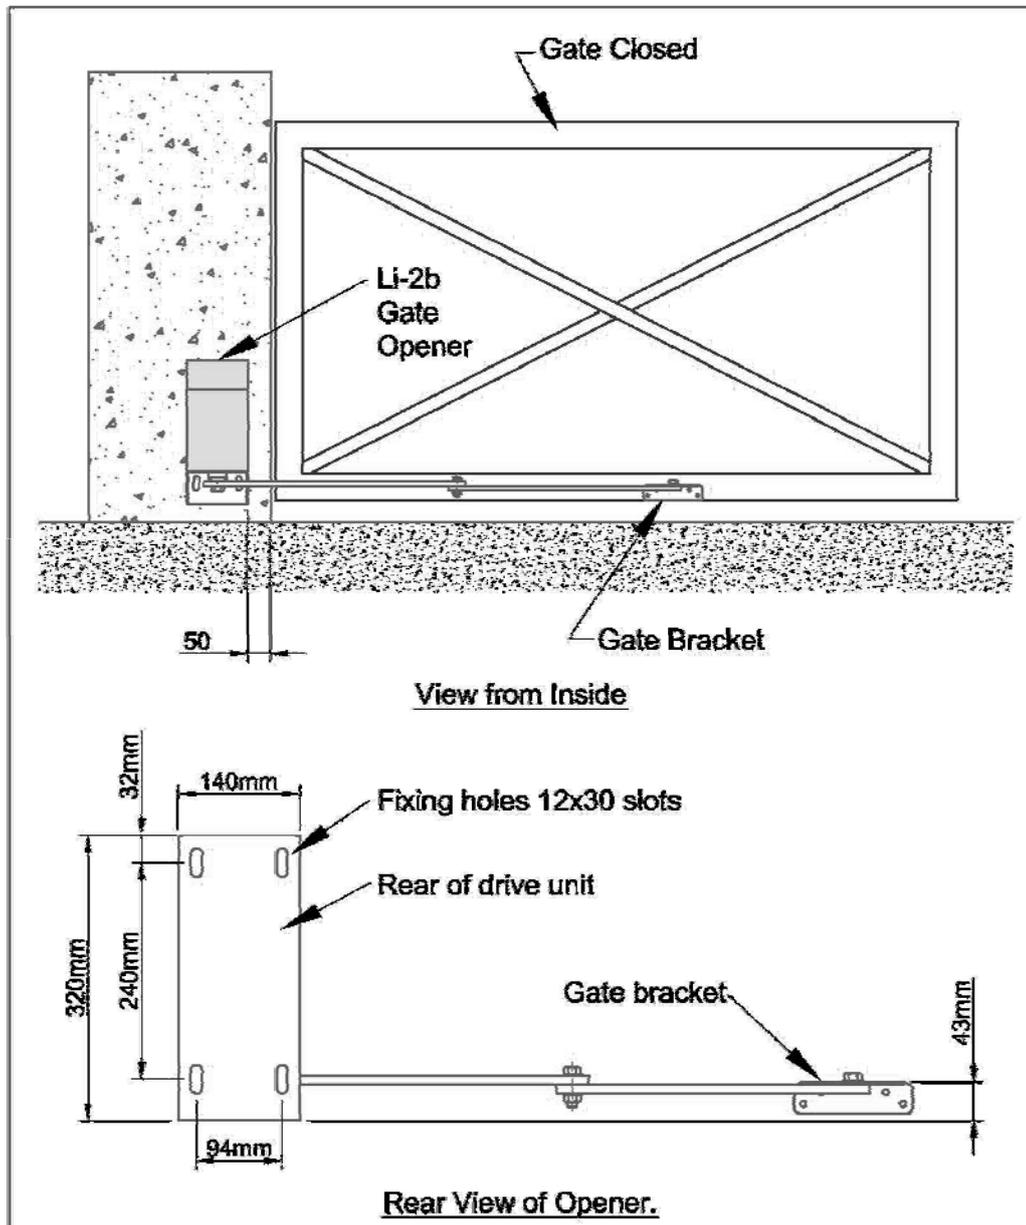

Figure 2: Position of operator.
3. Position each unit on the gate-post{s} approximately 50mm from the edge of the pier/post. The vertical position is found by locating the gate bracket. The gate bracket is best placed where there is adequate fixing on the gate and movement of the arms is unrestricted (See Figure 2). The gate operator may now be bolted in place.